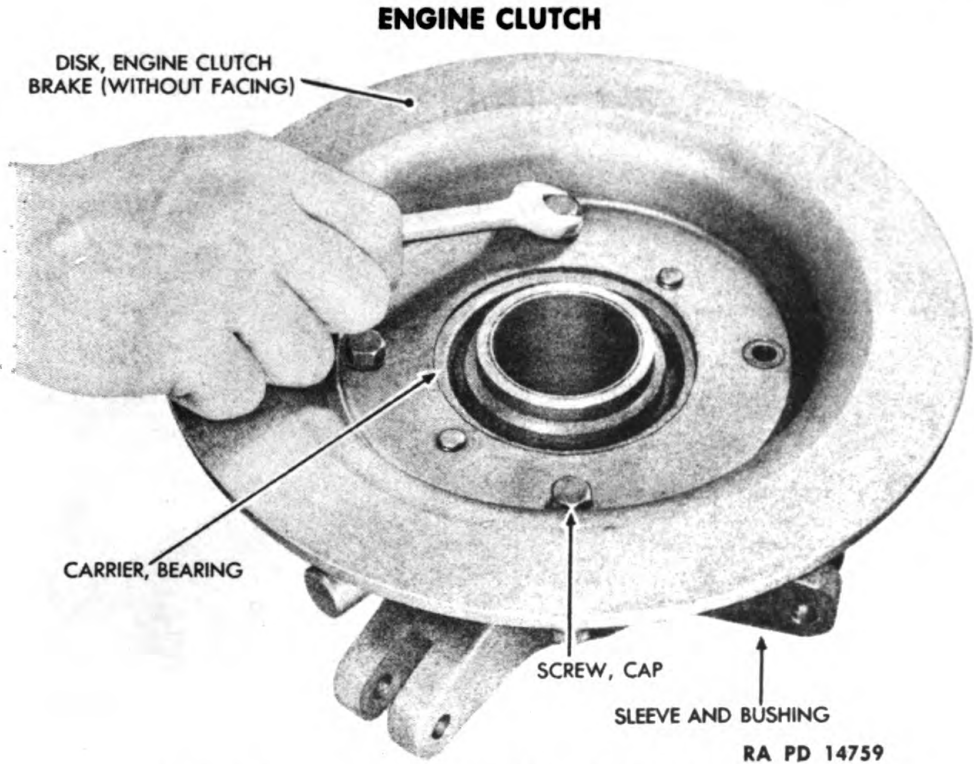

Figure 23 — Engine Clutch Brake Disk Removal
(11) REMOVE ENGINE CLUTCH BRAKE DISK (fig. 23).